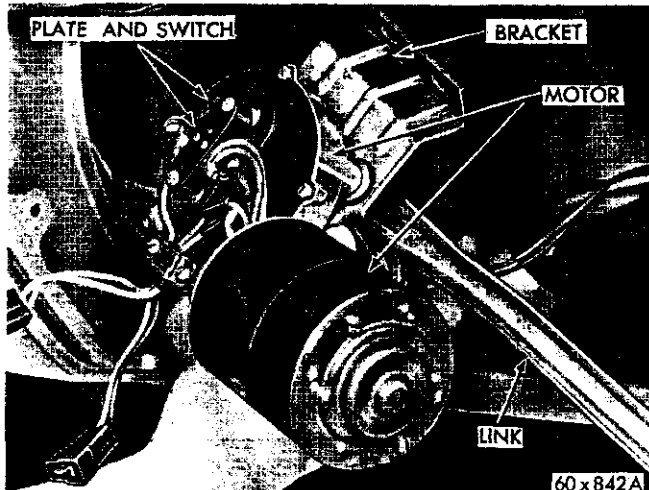

Fig. 109—Removing the Windshield Wiper Motor and Link Assembly (Typical)
- (1) Remove the glove compartment door.
- (2) Remove the glove compartment.
- (3) Remove the nuts attaching the wiper motor bracket to the cowl panel and to the instrument panel brace.
- (4) Disconnect the wires at the wiper motor.
- (5) Disconnect the links at the pivot cranks. The clips are removed by lifting the top tab and sliding it sideways out of engagement with the groove in the pivot crank pin.
- (6) Remove the spacing washer and remove the link from the pivot crank.
- (7) Slide the complete wiper with the links far enough towards the left so that the right hand link will clear the glove compartment opening in the instrument panel and remove assembly, as shown in Figure 109. Use care so as not to bend the links.